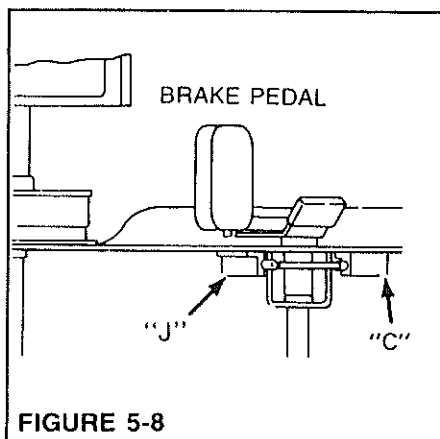

FIGURE 5-8
4. The fourth switch (C) Figure 5-8 is also on the brake linkage. When the pedal is released the button of the switch should be depressed approximately 3/32" (2 mm). When the pedal is depressed, the button of the switch is released and all power to the cruise control is shut off. If not, adjust by loosening nuts on switch and move switch forward or back. Retighten nuts.